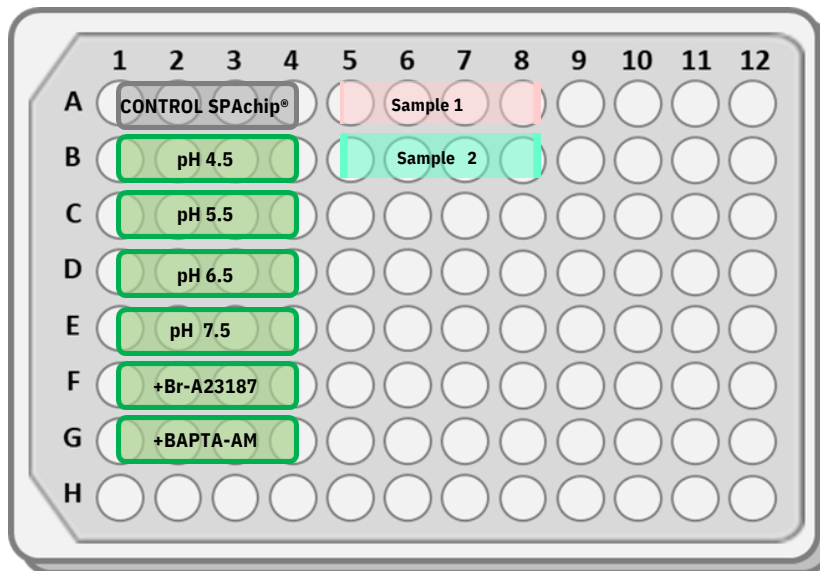

Figure 1: Example of 96-well plate configuration with positive controls and calibrators.
1. **Seed cells** of interest in a multi-well plate following standard protocols. See an example of plate template in **Figure 1**: control wells are non-fluorescent SPChips; *pH 4.5, 5.5, 6.5 and 7.5* are quality control wells for calculating an intracellular pH calibration curve where measurements should be interpolated; Br-A23187 and BAPTA-AM are two examples of Calcium ionophore and Calcium chelator that can be used as positive controls for increasing and decreasing Calcium signal respectively. Blank conditions with the sample medium should be used as negative control; *sample 1, 2, etc* are the measurements of interest whose values should be interpreted according to the Calcium controls and pH calibrators.
5. If fluorescence baseline is required, CONTROL SPACHIP® samples (non-fluorescent) can be included in assay design. In a 96-well plate, aspire the cell medium and add 100 µL of CONTROL SPACHIP® **dilution** to the control wells (Figure 1). Vortex the tube right before use. Add 100 µL ASSAY SPACHIP®-containing fresh culture medium per well⁵. Homogenize the solution by pipetting up and down several times.
7. If quantification is needed, use some wells of the plate for calibrating the system (controls and intracellular pH calibrators in the columns 1-4, see example of plate template below in Figure 1). In such case, follow calibrator manufacturer's instructions.